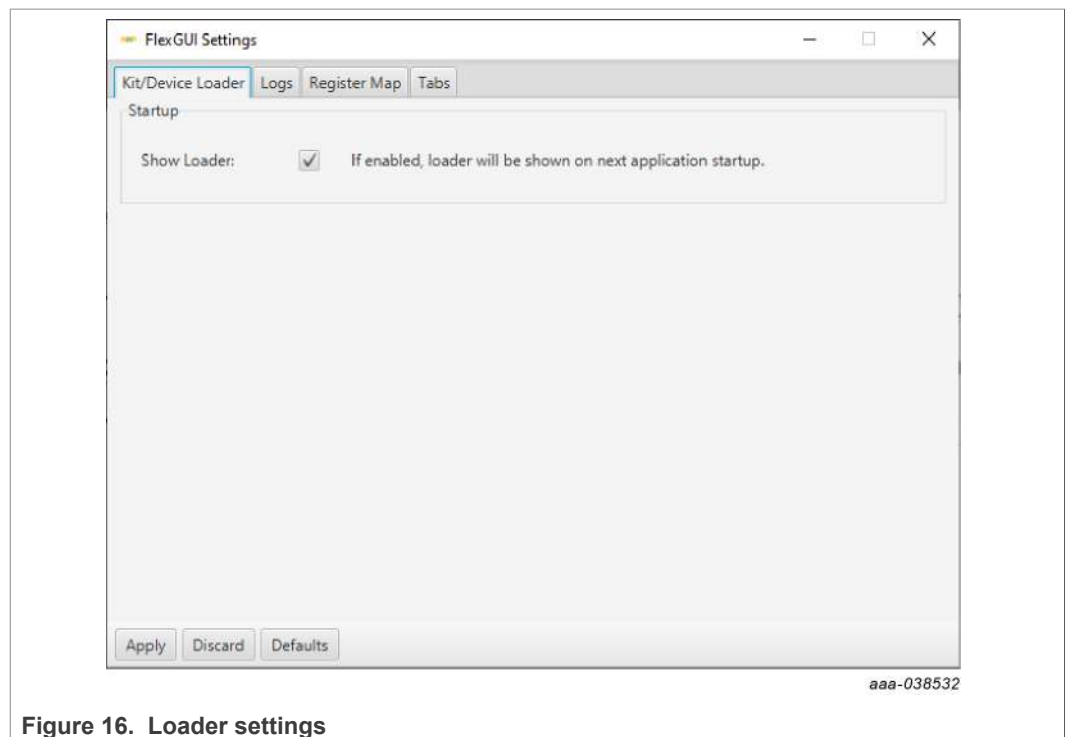
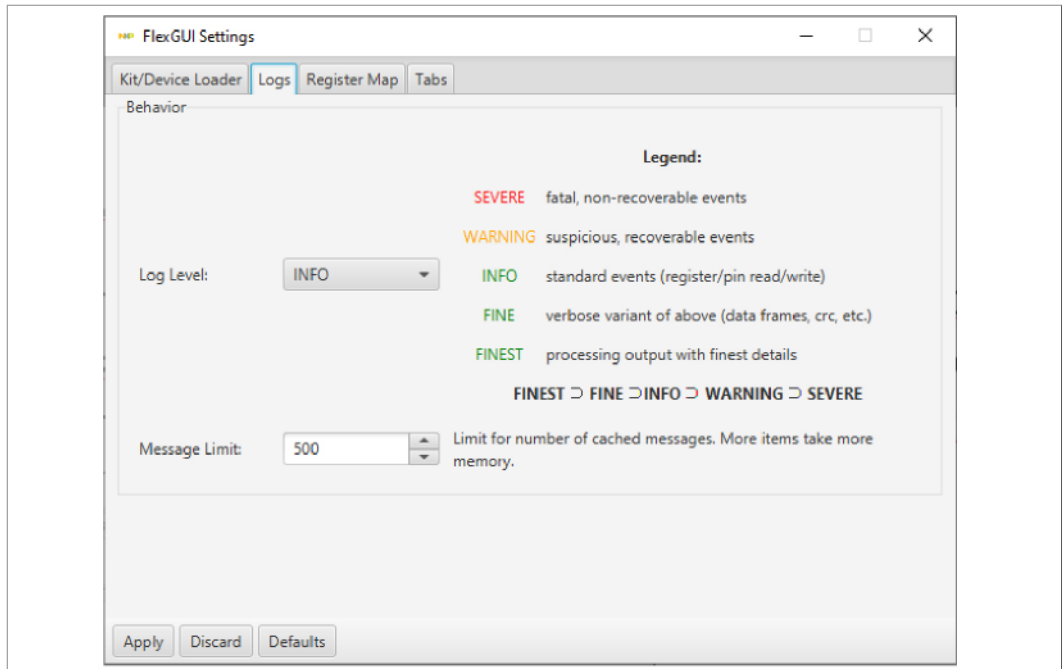

Figure 16. Loader settings
Figure 17. Logs settings
- The Loader and Logs settings are shown in Figure 16 and Figure 17: